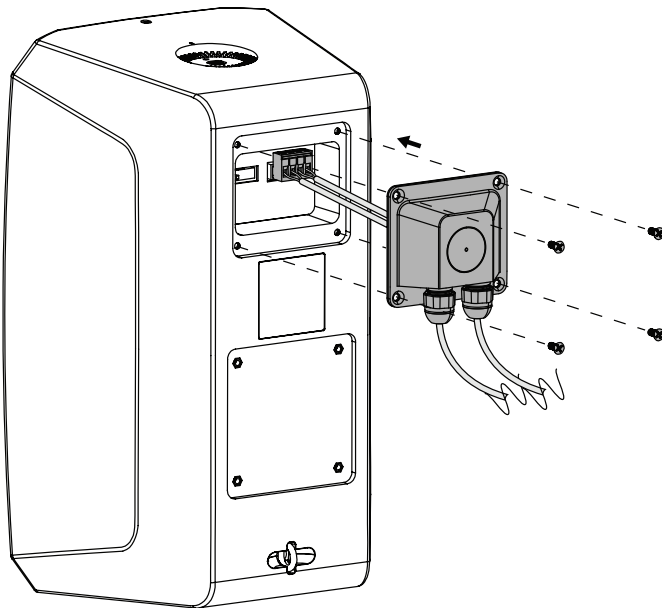

Figure 18
- Slide the back plate assembly along the loudspeaker wire until it is flush with the recessed cover opening.(Figure 18)
- Use the included screws and a Phillips head screwdriver to affix the back plate to the loudspeaker.(Figure 18)